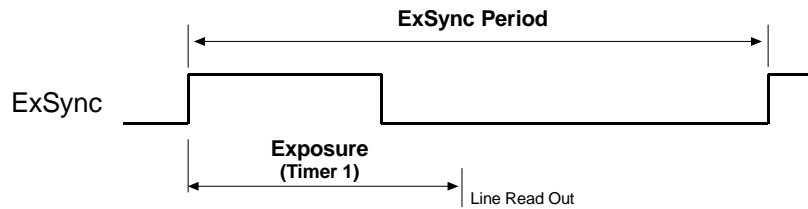

Figure 3-4: ExSync, Programmable Mode
- In **ExSync, programmable** mode, the rising edge of ExSync triggers exposure and charge accumulation for a pre-programmed period of time. The line is read out and transferred at the end of the pre-programmed period. The falling edge of ExSync is irrelevant (see Figure 3-4). A parameter called “Timer 1” is used to set the length of the pre-programmed exposure period.